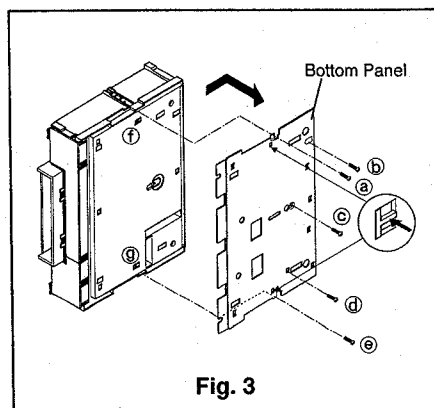

Fig. 3
- ① Remove five fastening screws (a~e) shown in Fig. 3.
- ② Push the two inside hooks (f and g), holding the Bottom Panel and slide the Bottom Panel toward the rear to remove it.